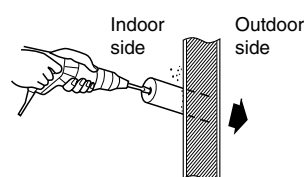

Fig. 3-124
- (8) If the tubing and wiring are to go towards the rear of the unit, make holes in the wall. (Fig. 3-124)